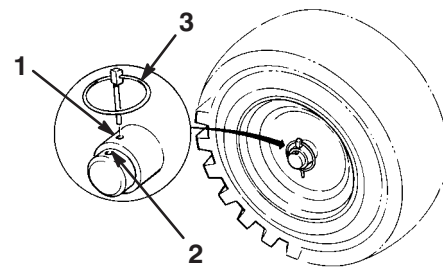

Figure 4
7. Slide the wheels inward and insert each axle pin through the hole in each wheel hub and through the **inner** hole of the axle (Fig. 4).